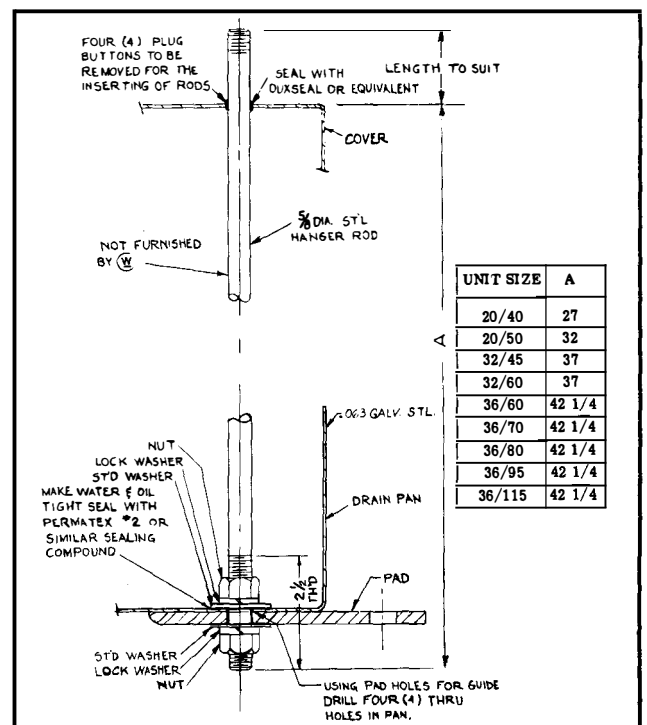

Fig. 3 Hanger Rod Mounting
**Mounting** the cabinet is relatively easy since practically all internal parts except the cells are assembled prior to shipment. (Install cells after cabinet is mounted.) The cabinet may be either floor, or platform mounted. 5/8" or 3/4" holes are provided in the legs for lagging the cabinet to the floor or platform. (Mounting bolts not supplied.) Unit sizes up to and including size 36/115 may also be suspended with hanger rods. See Fig. 3 for suggested mounting. Regardless of the type of mounting, the cabinet must be supported only from the legs - not from the cabinet itself.